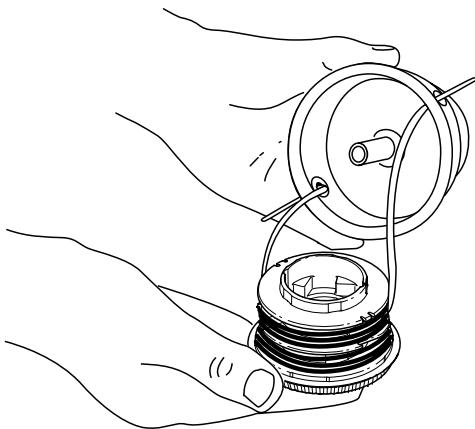

Fig. 23
3. Insert the ends of the prewound inner reel line into the outer spool eyelets (Fig. 23). Push the new inner reel, arrow side up, into the outer spool.